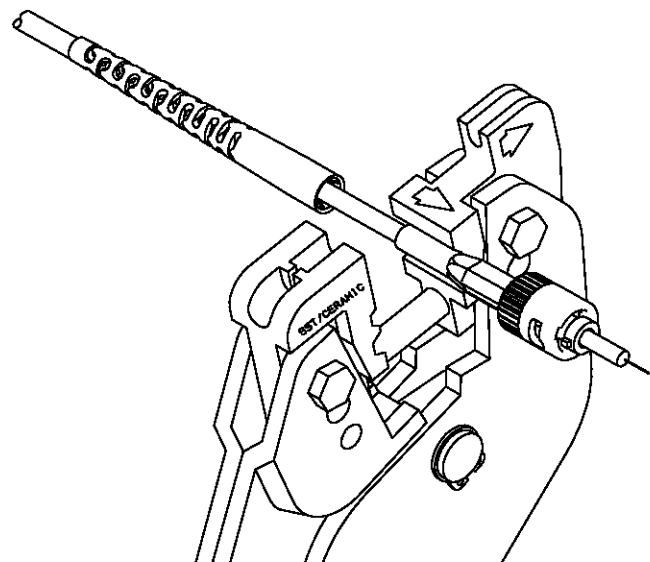

Figure 11
5. Move the crimping tool to the crimp sleeve smaller diameter, using the smaller hex cavity on the tool, squeeze the tool handles together until they release. See Figure 11.